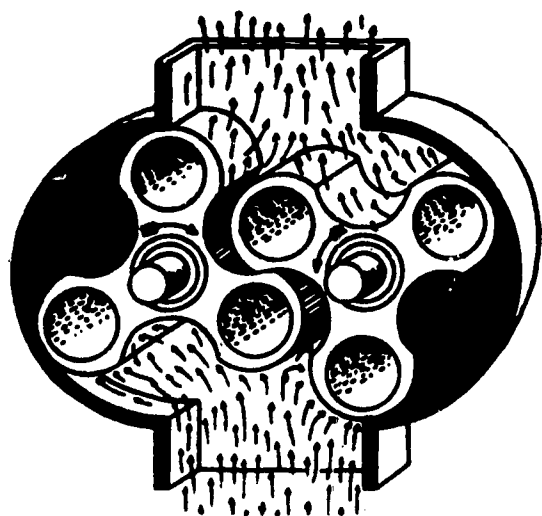

Fig. 2 Roots Blower principle.
**ROOTS BLOWER** -- The Roots blower consists of two three-lobed, inter-meshing spiral gears which trap the air and force it to the other side, see Figure 2.